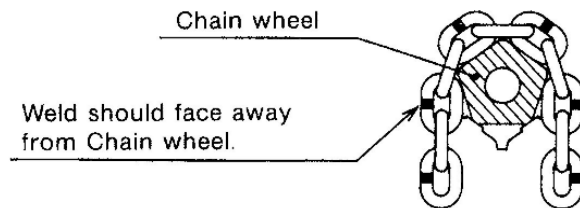

Fig.5
- Check the welds on Load chain are faced away from the center of Chain wheel (Fig. 5).